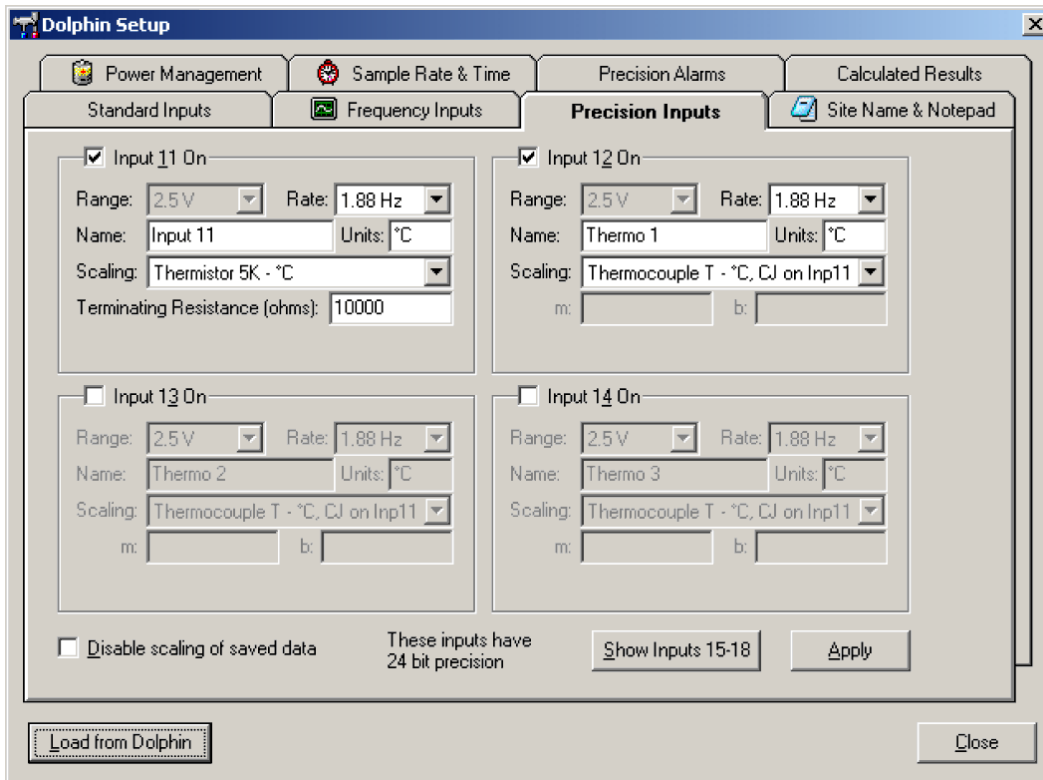

Figure 3: Precision input configuration settings in the Data Dolphin software
6. Configure precision input 11 for the cold junction compensation thermistor by choosing the 5K thermistor selection in the scaling selection box. Note that there is a separate selection for measurement in Celsius or Fahrenheit with the 5k Ω thermistor. Enter a rate of 3 Hz and a terminating resistance of 10000 ohms. Figure 3 shows Input 11 correctly configured for the cold junction compensation thermistor.
8. Select the type of thermocouple and units of measurement from the Scaling drop-down list. As an example, precision input 12 has been configured for reading from a type T thermocouple. In Figure 3, "Thermocouple T - °C, CJ on Inp11" has been selected from the Scaling drop down list to configure the input to correctly read the temperature, in degrees Celsius, on the type T thermocouple. Separate selections are available under Scaling for thermocouple temperature measurement in degrees Fahrenheit and for measurement using the type K thermocouple.
9. Appropriately name the input (eg. Thermo 1). Figure 3 shows Input 12 correctly configured for the type T thermocouple.